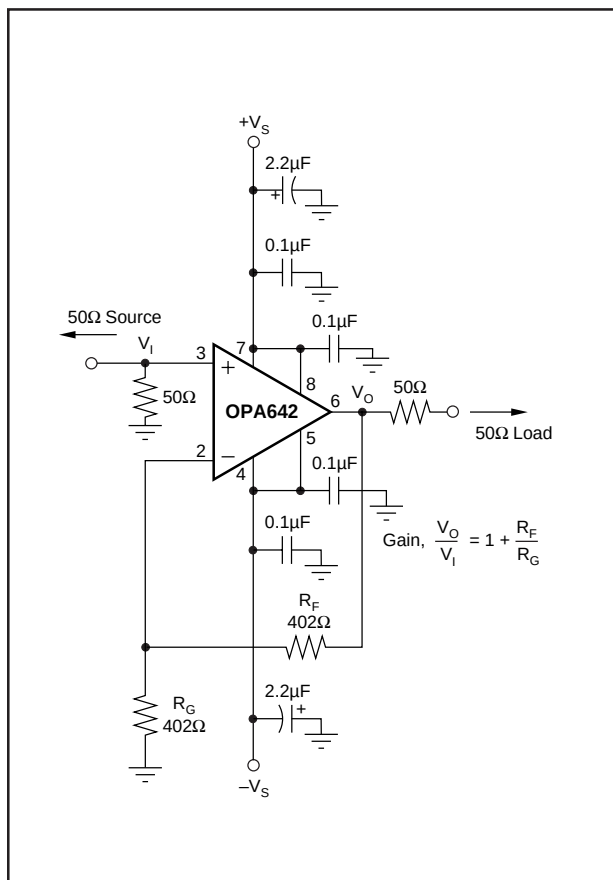
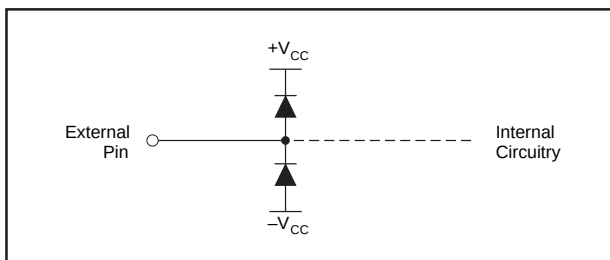

FIGURE 1. Gain of +2, High Frequency Application and Characterization Circuit [P or U Package].
FIGURE 9. Internal ESD Protection.
The OPA642's combination of speed and dynamic range is easily achieved in a wide variety of application circuits, providing that simple principles of good design practice are observed. For example, good power supply decoupling, as shown in Figure 1, is essential to achieve the lowest possible harmonic distortion and smooth frequency response. Proper PC board layout and careful component selection will maximize the performance of the OPA642 in all applications, as discussed in the remaining sections of this data sheet.
Figure 1 shows the gain of +2 configuration used as the basis for most of the Typical Performance Curves. Most of the curves were characterized using signal sources with 50Ω driving impedance, and with measurement equipment presenting 50Ω shunt load impedance. In Figure 1, the 50Ω shunt resistor at the V_I terminal matches the source impedance of the test generator, while the 50Ω series resistor at the V_O terminal provides a matching resistor for the measurement equipment load. Generally, data sheet specifications refer to the voltage swing at the output pin (V_O in Figure 1). The 100Ω load from the series and shunt matching resistances, combined with the 804Ω total feedback network load, presents the OPA642 with an effective load of approximately 90Ω.
To achieve the lowest possible distortion in the 8-pin SO-8 or DIP package, the addition of 0.1μF decoupling capacitors on pins 5 and 8 is required. These are shown in Figure 1. Although pins 5 and 8 are internally connected to pins 4 and 7 respectively (the standard supply pins for 8-pin op amps), the additional capacitors help to decouple the package lead inductances and improve second harmonic suppression at 5MHz by approximately 4dB. The much shorter bond wires and supply leads of the SOT23-5 package give the best distortion performance while requiring only two power supply connections.
is typically set up for a voltage gain of +2, compensating for the 6dB attenuation of the voltage divider formed by the series and shunt 75Ω resistors at either end of the cable. The circuit of Figure 1 applies to this requirement if all references to 50Ω resistors are replaced by 75Ω values. Often, the amplifier gain is further increased to 2.2, which recovers the additional DC loss of a typical long cable run. This change would require the gain resistor (R_G) in Figure 1 to be reduced from 402Ω to 335Ω. In either case, both the gain flatness and the differential gain/phase performance of the OPA642 will provide exceptional results in video distribution applications. Differential Gain and Phase measure the change in overall small-signal gain and phase for the color subcarrier frequency (3.58MHz in NTSC systems) vs changes in the large-signal output level (which represents luminance information in a composite video signal). The OPA642, with the typical 150Ω load of a single matched video cable, shows less than 0.01%/0.01° differential gain/phase errors over the standard luminance range for a positive video (negative sync) signal. Similar performance would be observed for negative video signals. In practice, similar performance is achieved even with two video loads due to the linear high-frequency output impedance of the OPA642.
A good rule of thumb is to target the parallel combination of R_F and R_G (Figure 1) to be less than about 200Ω. The combined impedance $R_F \parallel R_G$ interacts with the inverting input capacitance, placing an additional pole in the feedback network and thus a zero in the forward response. Assuming a 2pF total parasitic on the inverting node, holding $R_F \parallel R_G < 200\Omega$ will keep this pole above 400MHz. By itself, this constraint implies that the feedback resistor R_F can increase to several kΩ at high gains. This is acceptable as long as the pole formed by R_F and any parasitic capacitance appearing in parallel is kept out of the frequency range of interest.
configuration this is sum of $R_F + R_G$, while in the inverting configuration this is just R_F (Figure 1). Increasing output voltage swing increases harmonic distortion directly. A 6dB increase in output swing will generally increase the second harmonic 12dB and the third harmonic 18dB. Increasing the signal gain will also increase the second harmonic distortion. Again a 6dB increase in gain will increase the second and third harmonic by 6dB even with a constant output power and frequency. And finally, the distortion increases as the fundamental frequency increases due to the rolloff in the loop gain with frequency. Conversely, the distortion will improve going to lower frequencies down to the dominant open-loop pole at approximately 3kHz. Starting from the -90dBc second harmonic for 2Vp-p into 500Ω , $G = +2$ distortion at 1MHz (from the Typical Performance Curves), the second harmonic distortion at 20kHz should be approximately $-90\text{dB} - 20\log(1\text{MHz}/20\text{kHz}) = -124\text{dBc}$.
Evaluating these two equations for the OPA642 circuit shown in Figure 1 will give a total output spot noise voltage of $6.7\text{nV}/\sqrt{\text{Hz}}$ and an equivalent input spot noise voltage of $3.35\text{nV}/\sqrt{\text{Hz}}$.
Narrowband communications systems are more commonly concerned with the noise figure for the amplifier. The total input referred voltage noise expression (Eq. 2), may be used to calculate the noise figure. Equation 3 shows this noise figure expression using the E_N of Eq. 2 for the non-inverting configuration where the input terminating resistor R_T has been set to match the source impedance (as shown in Figure 1).
Evaluating Equation 3 for the circuit of Figure 1 gives a Noise Figure = 17.6dB. Input transformer coupling can be used to reduce this noise figure. A broadband pulse transformer can provide both a noiseless voltage gain and a more optimum source impedance to minimize the noise figure. Figure 7 shows an example built from the circuit of Figure 1, in which the transformer turns ratio has been set to the
The OPA642 can provide excellent DC signal accuracy due to its high open-loop gain, high common-mode rejection, high power supply rejection, and low input offset voltage and bias current offset errors. The high grade (B) version of any package type provides less than 1mV input offset voltage. To take full advantage of this low input offset voltage, a careful attention to input bias current cancellation is also required. The high speed input stage for the OPA642 has a relatively high input bias current (25μA typ into the pins) but with a very close match between the two input currents—typically 100nA input offset current. The total output offset voltage may be considerably reduced by matching the source impedances looking out of the two inputs. For example, one way to add bias current cancellation to the circuit of Figure 1 would be to insert a 175Ω series resistor into the non-inverting input from the 50Ω terminating resistor. When the 50Ω source resistor is DC coupled, this will increase the source impedance for the non-inverting input bias current to 200Ω. Since this is now equal to the impedance looking out of the inverting input ($R_F \parallel R_G$), the circuit will cancel the gains for the bias currents to the output leaving only the offset current times the feedback resistor as a residual DC error term at the output. Using a 402Ω feedback resistor, this output error will now be less than $3\mu A \cdot 402\Omega = 1.2\text{mV}$.
As a worst case example, compute the maximum T_J using an OPA642N (SOT23-5 package) in the circuit of Figure 1 operating at the maximum specified ambient temperature of +85°C. $P_D = 10V \cdot 26mA + 5^2 / (4 \cdot (100\Omega \parallel 804\Omega)) = 330mW$. Maximum $T_J = +85^\circ C + 0.33W \cdot 150^\circ C/W = 135^\circ C$.
The OPA642 is built using a very high speed complementary bipolar process. The internal junction breakdown voltages are relatively low due to these very small geometry devices. These breakdowns are reflected in the Absolute Maximum Rating table. All device pins are protected with internal ESD protection diodes to the power supplies as shown in Figure 9.
High input overdrive signals can also cause significant differential voltage between the + and - inputs. Where this voltage can exceed the maximum rated voltage of $\pm 1.2V$, external Schottky protection diodes should be added across the two inputs. Again, the capacitance added by these diodes can degrade the noise and AC performance and should be used only where necessary. Figure 9 shows a fully featured input protection circuit for the OPA642. This is the circuit of Figure 1 with additional limiting resistors into the inputs and Schottky clamp diodes across the inputs. These resistor values have been selected to limit the degradation in noise and frequency response, achieve DC bias current cancellation, and limit the current that will flow under overdrive conditions.